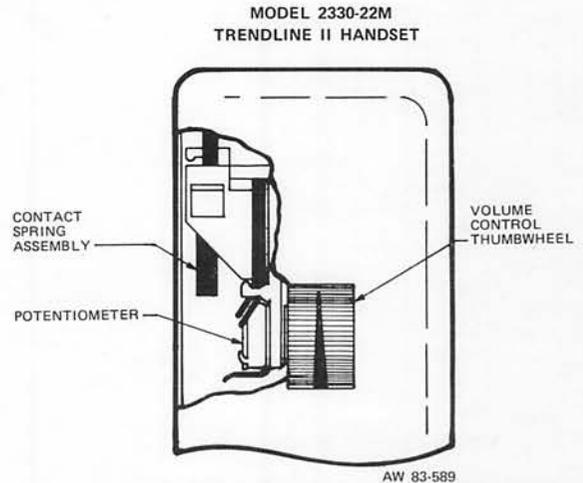

Figure 2: Receiver Volume Control/Dial Light ON-OFF Switch
1.14 The Model 2354** () 22 deluxe model is identical to the Model 2354** () 20 except for the addition of LEDs that light the dial keypad, and a switch that controls both the receiver volume and the dial keypad light. The switch is located on the rear of the handset. (See Figure 2.) The arrow on the volume control thumbwheel indicates the direction to turn it to increase the volume of the receiver. This control will not completely silence the receiver. The dial keypad light ON-OFF switch is located beneath the receiver volume control thumbwheel, and it is operated by pressing and holding the thumbwheel to illuminate the dial keypad.